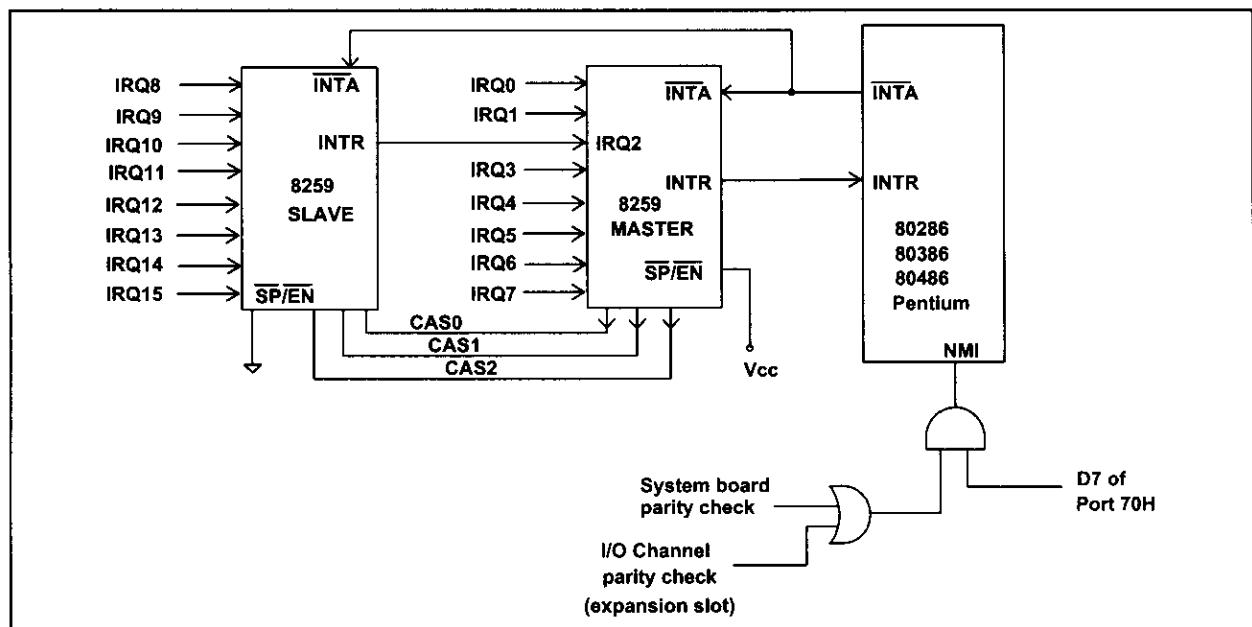

Figure 14-11. 8259 Chips in Master/Slave Relation for 286 and Higher PCs
In the design of the 80286-based IBM PC AT, IBM designers had to make sure that it was compatible with the 8088-based PC/XT. This led to the use of IRQ0 and IRQ1 for the system timer and keyboard, respectively, as was the case in the PC/XT. IBM made the first 8259 a master, and added the second 8259 in slave mode. To do that, it connected the INT pin of the slave 8259 to IRQ2 of the master 8259. The master and slave 8259s communicate with each other through pins IRQ2, INT, CAS0, CAS1, and CAS2. See Figure 14-11. A detailed discussion of 8259 design in master and slave modes in IBM PC AT and compatibles follows.
1. The 8259 SP/EN pin must be connected to 5 V, VCC, to make it the master in nonbuffered mode. See Figure 14-11.
1. SP/EN must be grounded (SP/EN = 0) for the 8259 in slave mode for nonbuffered mode. See Figure 14-11.